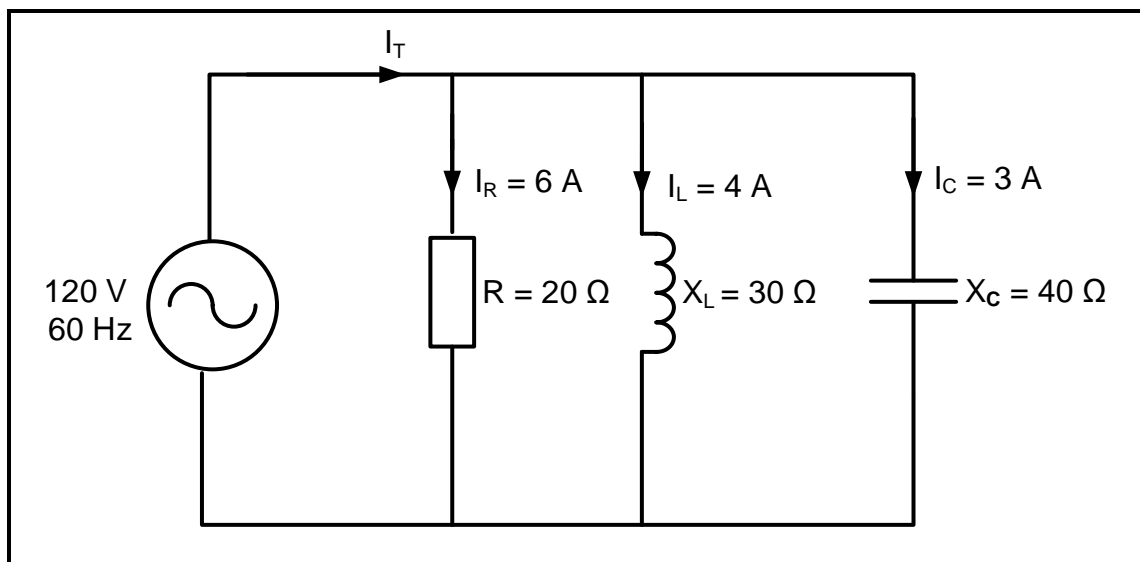

FIGURE 2.4: RLC PARALLEL CIRCUIT
- 2.4 FIGURE 2.4 below shows an RLC parallel circuit consisting of a $20\ \Omega$ resistor, an inductor with an inductive reactance of $30\ \Omega$ and a capacitor with a capacitive reactance of $40\ \Omega$, all connected across a $120\ \text{V}/60\ \text{Hz}$ supply. Answer the questions that follow.